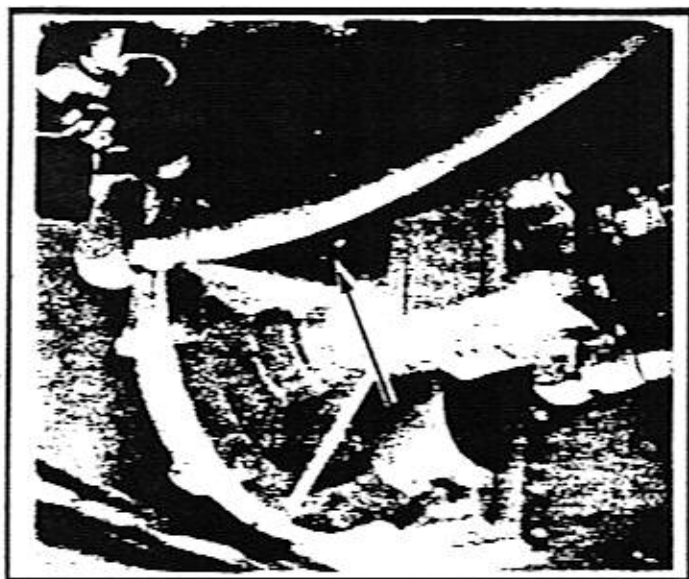

Figure 8-12
Lubricate the one (1) fitting located on the water pump with 2 to 5 shots of MPG-EP grease. Refer to Figure 8-12.